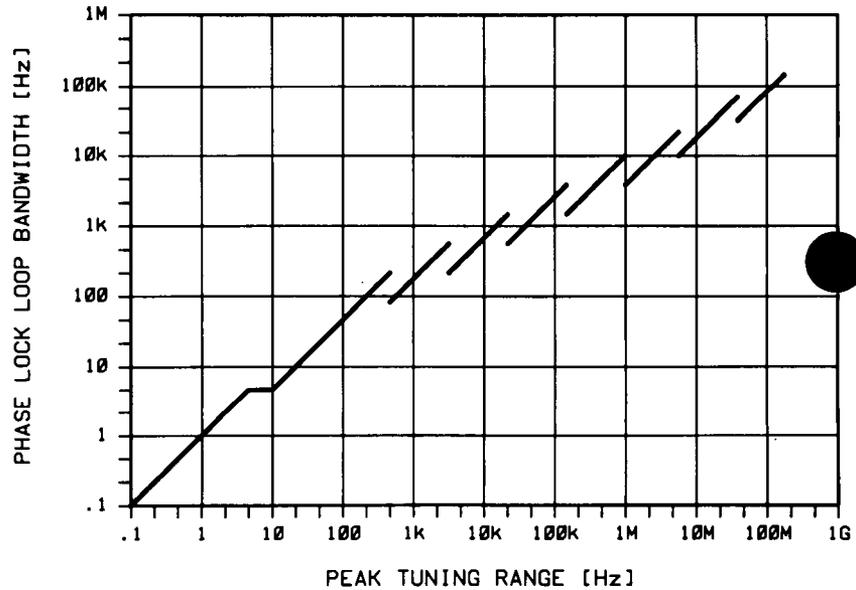

Figure 3-45. Graph of Phase Lock Loop Bandwidth Provided by the Peak Tuning Range
2. **Estimate the Phase Lock Loop (PLL) bandwidth for the measurement using the PTR of your VCO and the graph in Figure 3-45.**